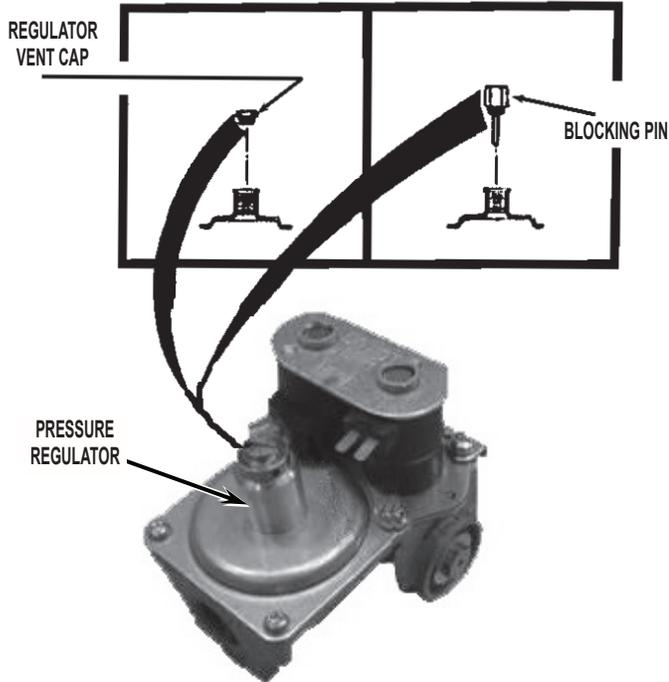

FIGURE 23
27. Remove the regulator vent cap (leak limiting device) from the pressure regulator. See *Figure 23*. Continue to Step 31.